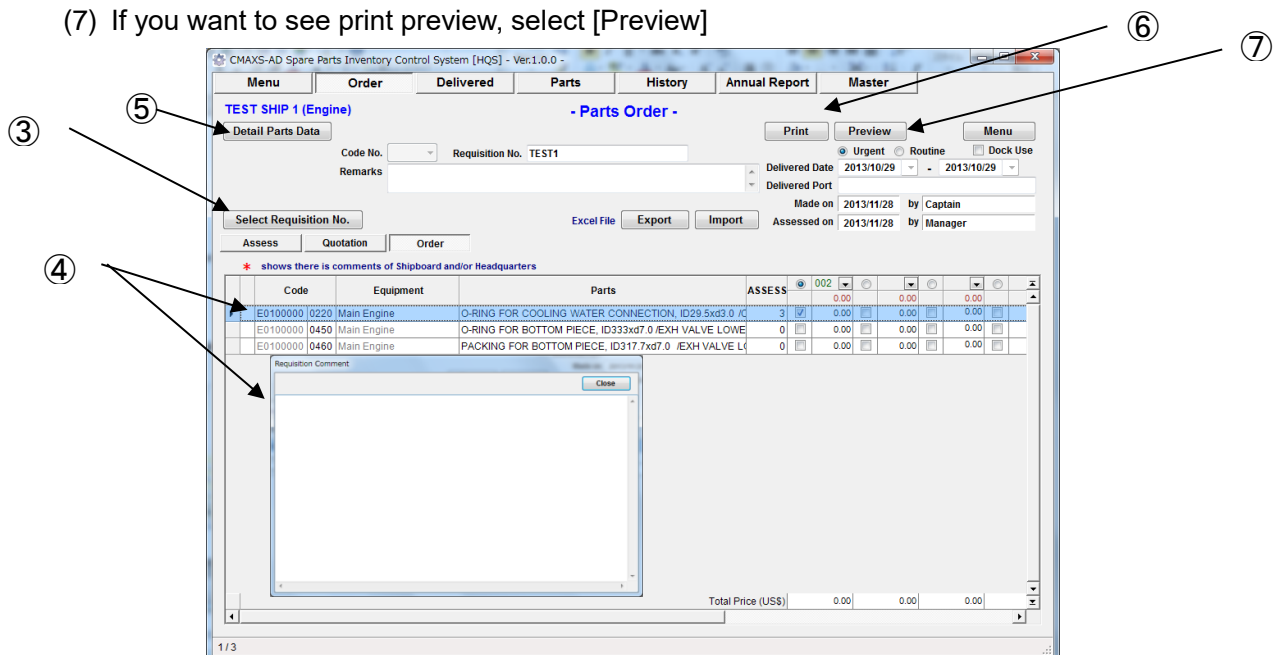

Fig.8-2 Order Screen
- (2) "Order Screen" (Fig.8-2) is displayed.
- (3) If you want to make Order Sheet from other import data, select [Requisition No.]
- (4) If there is a comment from shipboard, [\*] is shown on left side potion. Then select it, "Requisition Comment Screen" is displayed and it can be changed.